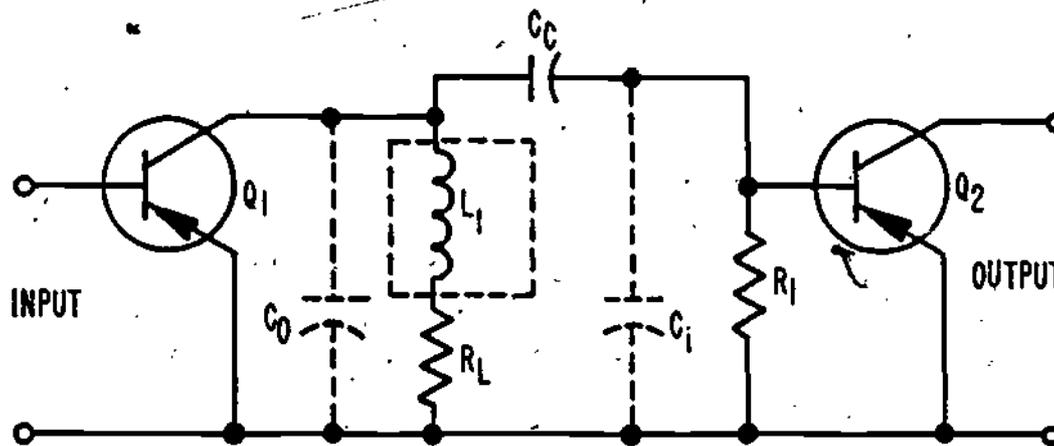

Figure 12
11. Now that you know why a standard audio amplifier has poor high frequency response, what can be done to improve it? Since it is not possible to remove  $C_o$  and  $C_i$ , they must be compensated for in some way. An inductor can be added in parallel with  $C_o$  and  $C_i$  to improve high frequency gain of the amplifier. Such a set-up is shown in Figure 12.
In Figure 12,  $L_1$  (increases/decreases) the gain and output of  $Q_1$  at (high/low) frequencies.